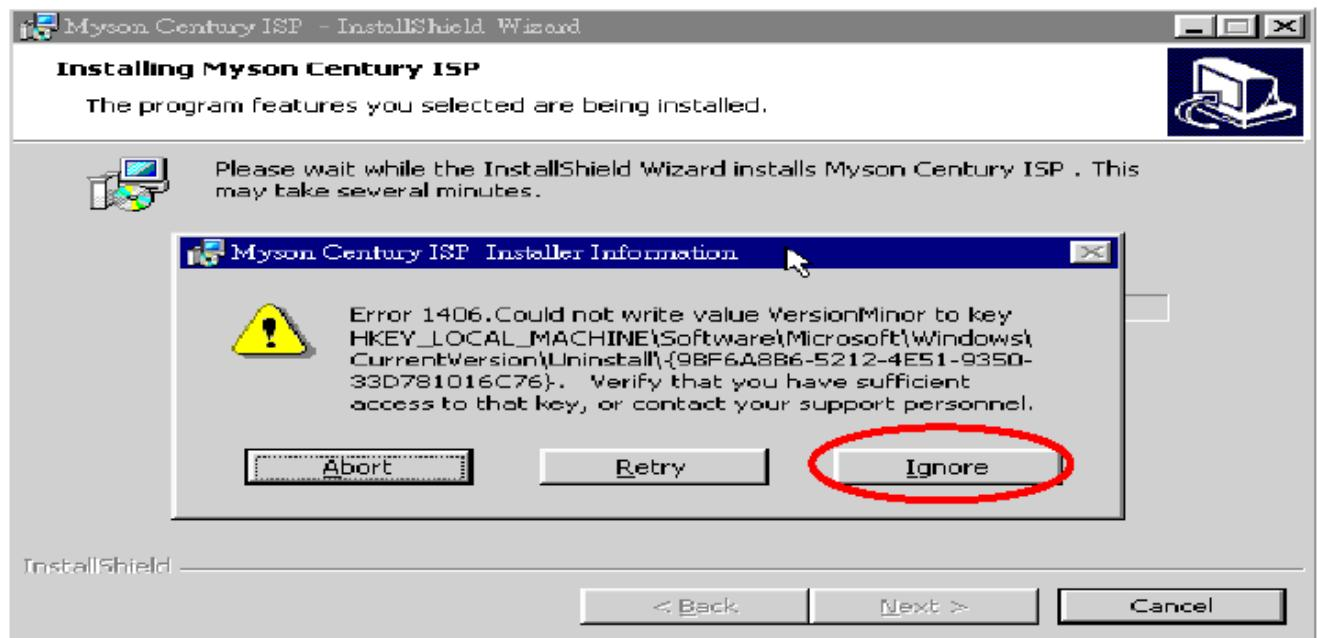

Fig 2.6
2.6 The Installer Information shows package warning, press "Ignore" button to continue, see Fig 2.6.